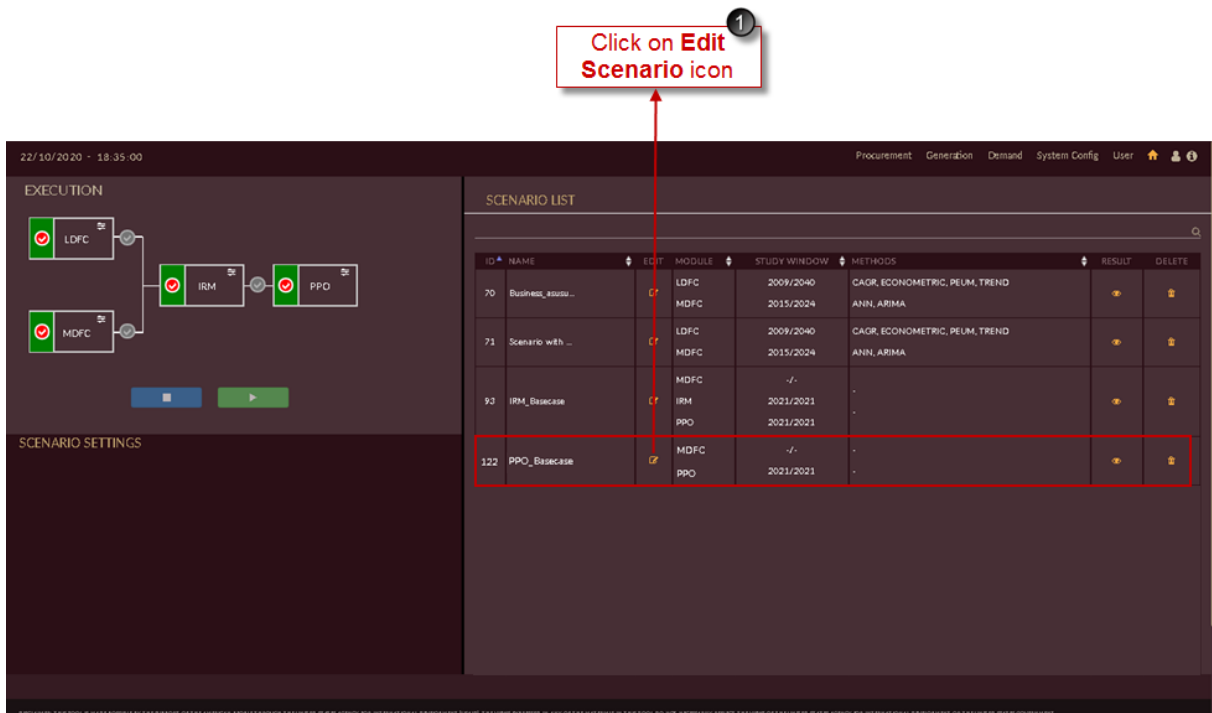

Figure 264. Editing PPO Scenario
- I. In the scenario list shown in Figure 264 click on the Edit scenario icon for PPO_Basecase scenario.